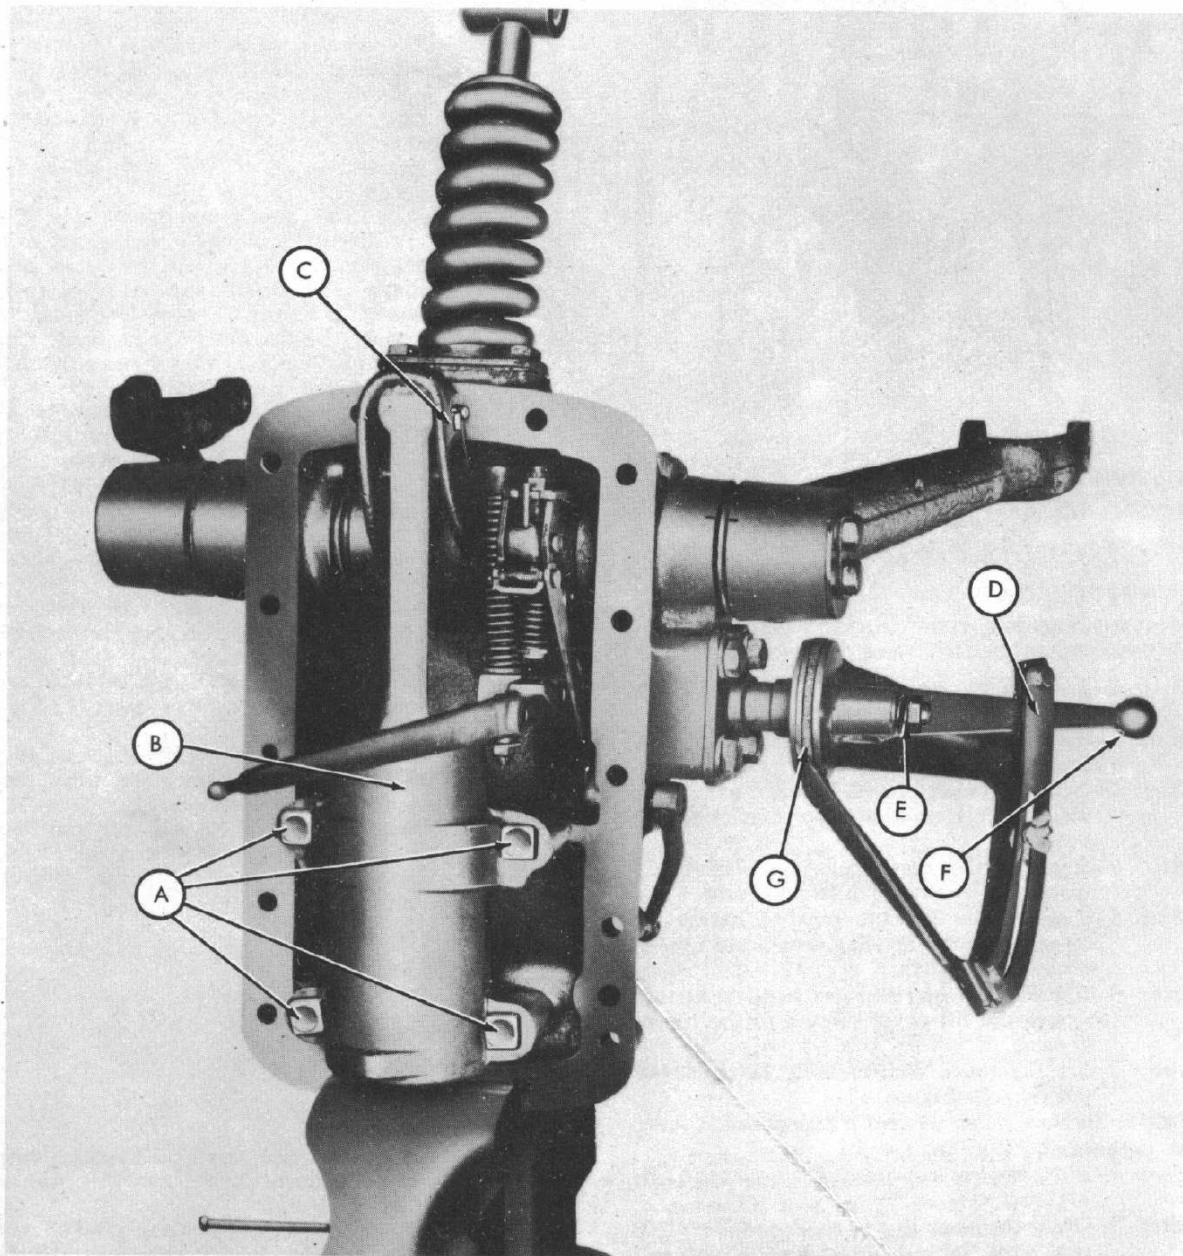

Fig. 3
- Step 1—Support the lift cover assembly in a vise in a vertical position with the main control spring up, as shown in Figure 3.
- Step 2—Remove the four bolts (A-Figure 3) that secure the ram cylinder to the lift cover casting.
- Step 3—Remove the ram cylinder and gasket (B-Figure 3).
- Step 4—Remove the cotter pin and clevis pin (C-Figure 3) that secures the connecting rod to the ram arm and lift out the piston rod.
- Step 5—Remove the hydraulic touch control lever retainer (D-Figure 3) from the quadrant.
- Step 6—Remove the locknut, spring and flat washer (E-Figure 3) that secures the hydraulic touch control lever.
- Step 7—Remove the hydraulic touch control lever (F-Figure 3).
NOTE: Remove the woodruff key and friction disk (G-Figure 3) from the shaft.